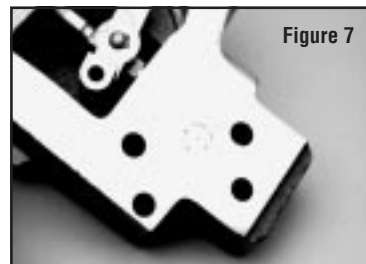

Figure 7
The orifice on earlier manufactured pump (P) were either staked in the control housing shown here or a loose fit in the control housing. (see Figure 7)